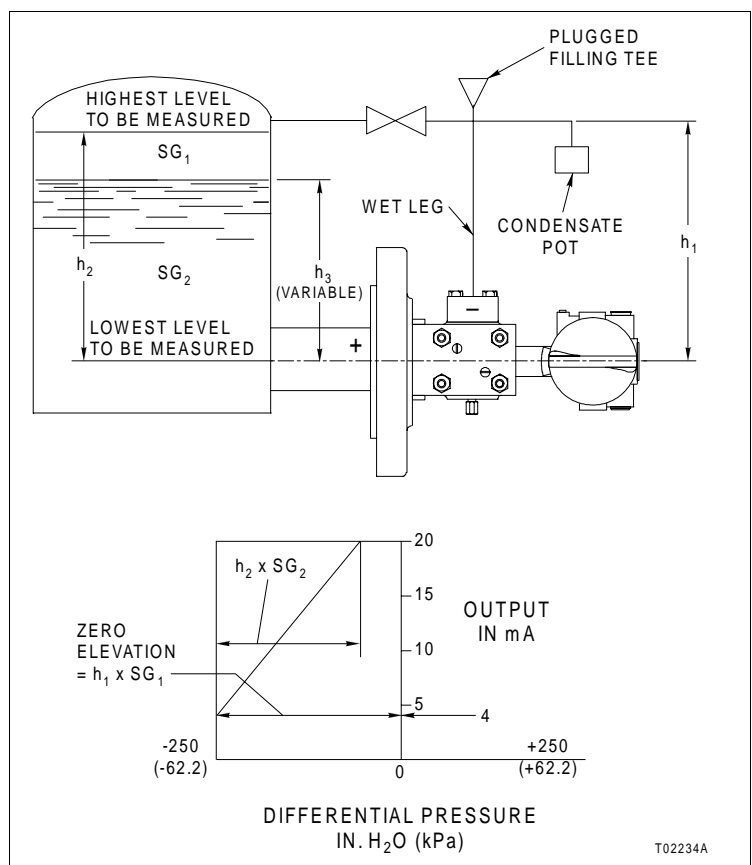

Figure 3-6. Closed Tank (Condensing Atmosphere) Level Measurement
As shown in Figure 3-6, if h_3 is the level of the liquid at any point between minimum and maximum level range values, the transmitter senses the difference in pressure between the fixed head at h_2 and the variable head at h_3 . As the level of h_3 increases, the difference between h_2 and h_3 decreases. The transmitter output decreases with increasing level and decreasing differential pressure. The effect is that of a negative differential pressure that decreases in numerical value as the level rises. This negative differential is simulated for calibration purposes by a positive pressure, increasing in value, imposed on the low pressure (-) connection of the cell.
3. The output of the transmitter is proportional to the level of the liquid above the cell multiplied by the specific gravity of the liquid. If the zero point of the desired level range is above the cell, the lower range value must be changed to reflect this. Refer to Section 4 and Section 5 for more information. Refer to Figure 3-6 for a graphical representation of this application.